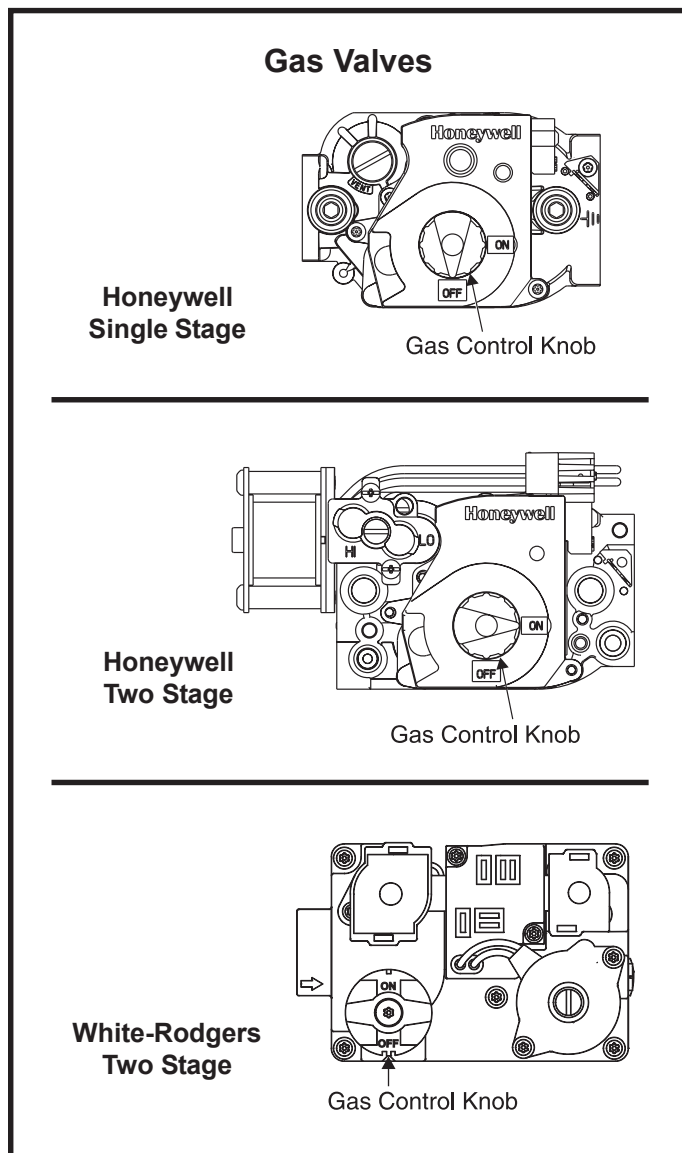

Figure 1
6. Turn the gas control knob to “OFF” (see Figure 1).
4. Turn the gas control knob counterclockwise to “OFF” (see Figure 1). Do not force.